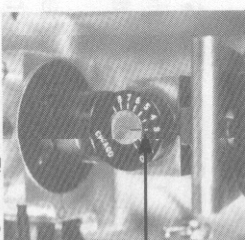

Figure 21
6. Rotate the depth cam so the #3 depth aligns with the index mark on the hub (Fig. 21).